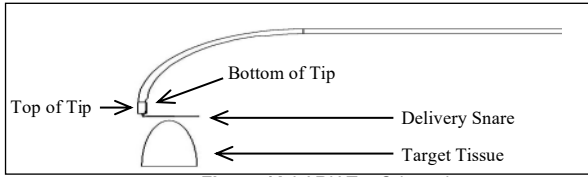

Figure 4A LARIAT + Orientation
12. Ensure the open Delivery Snare is at the desired target for ligation. The Delivery Snare represents the position where the Suture will be placed. Orientate the LARIAT RS curve to the target tissue as shown in Figure 4A.